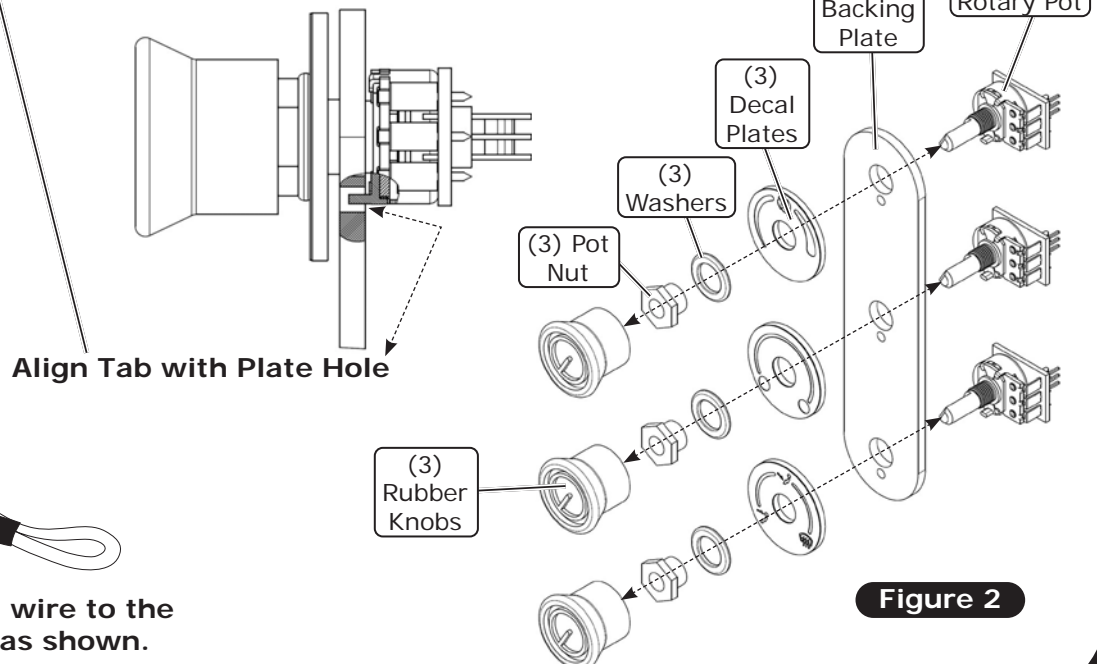

Figure 2
4. Secure the potentiometers from the front of the dash using the previously removed decal plates, washers, nuts (finger tighten with 1/2" deep well socket), then install the knobs, aligning the flat to the shaft (See Figure 2, below).